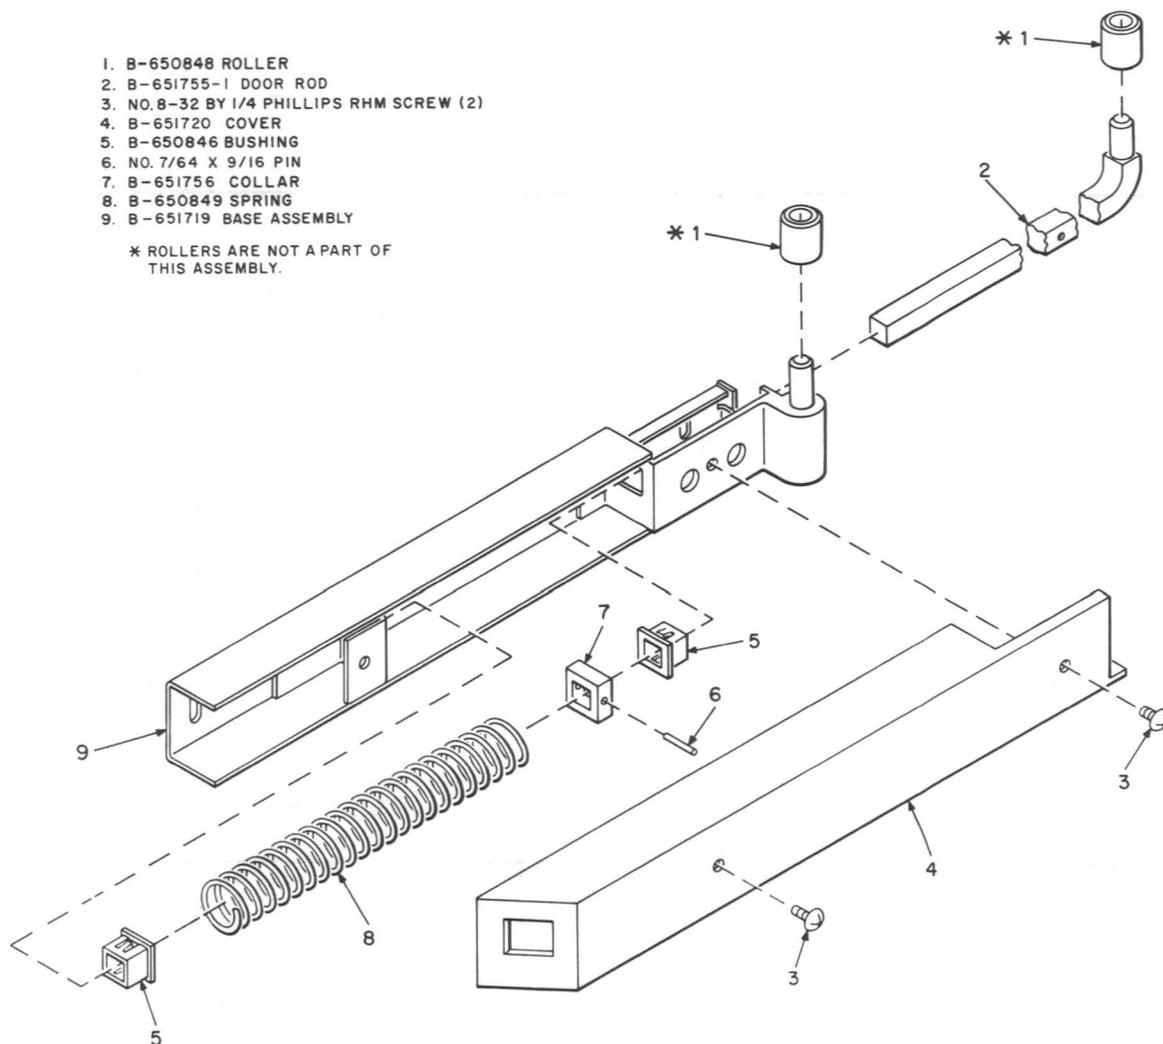
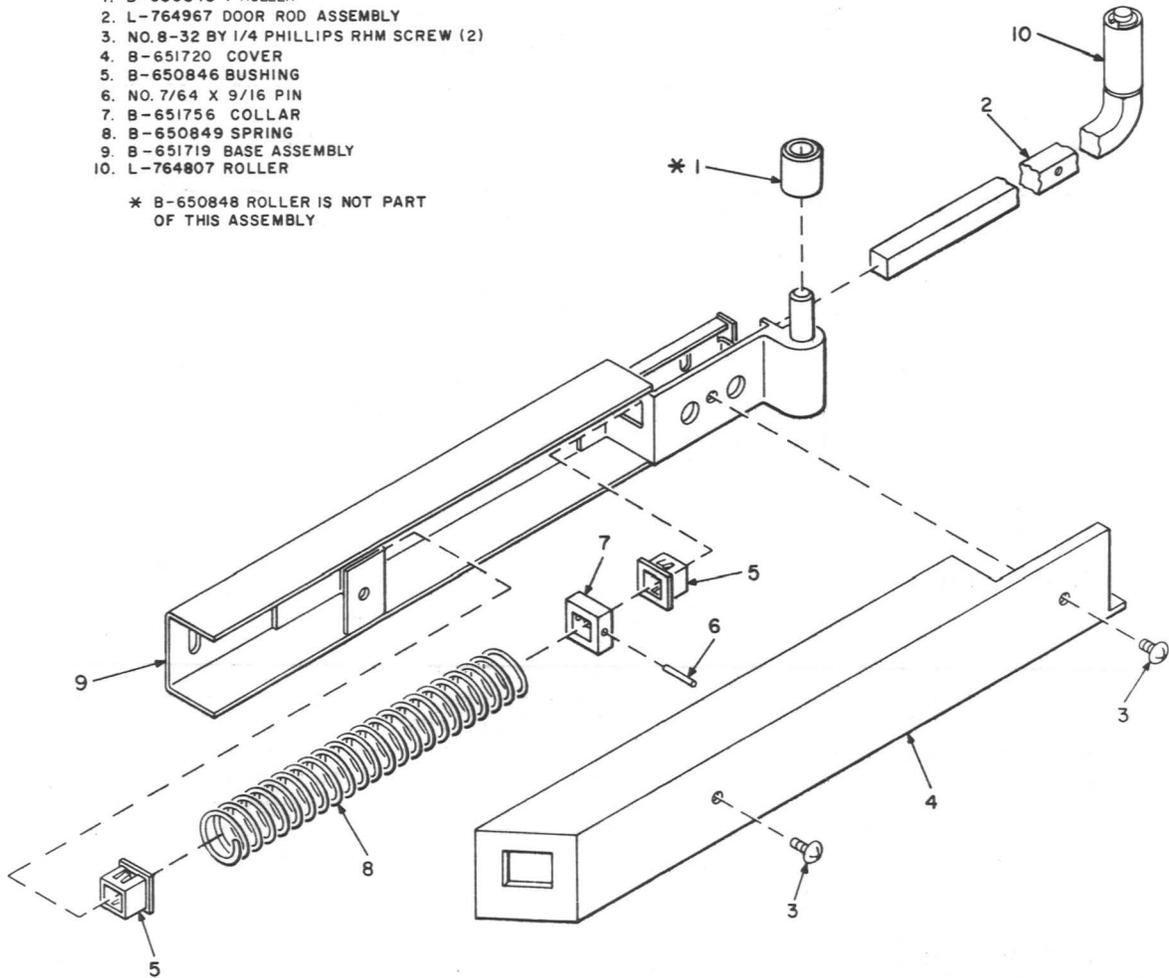

Fig. 26—B-651721-1 Door Guide Assembly
Fig. 27—B-993172-1 Door Guide Assembly
- (1) Remove two screws and B-651720 cover (Fig. 26 and 27).
- (2) Loosen three door guide assembly mounting screws.
- (3) Move the door guide assembly up or down to obtain proper roller position.
4.49 The KS-19425 booth will have either a B-651721-1 short-roller door guide assembly (Fig. 26) or a B-993172-1 long-roller door guide assembly (Fig. 27).